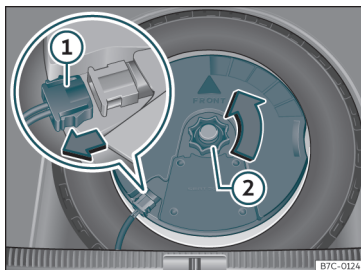

Fig. 255 In the boot: remove the subwoofer.
- Disconnect the *subwoofer* »» Fig. 255 ① speaker cable.
- Turn the securing wheel in an anti-clockwise direction »» Fig. 255 ②.